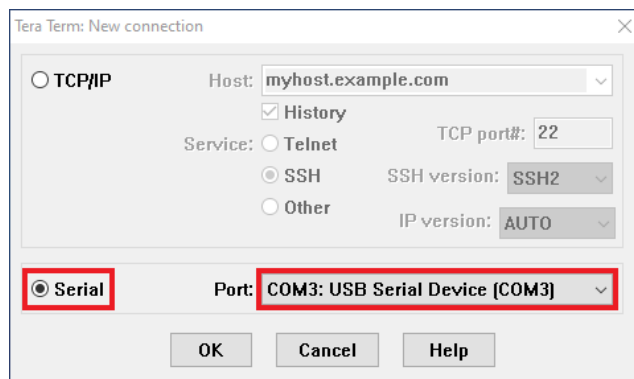

Figure 11. Tera Term New Connection Window
3. Open Tera Term. A new connection should automatically open (Figure 11). If not, select **File > New Connection**. From the window, select **Serial** and ensure the **USB Serial Device COM** port is selected from the drop-down list. Click the **OK** button to open the connection.